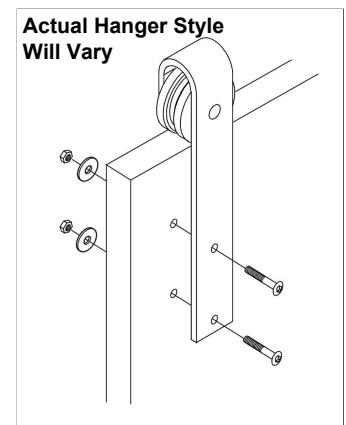

Figure 6
9. Install the hangers to the front of the door using the button head bolts, washers and nuts provided (Figure 6).